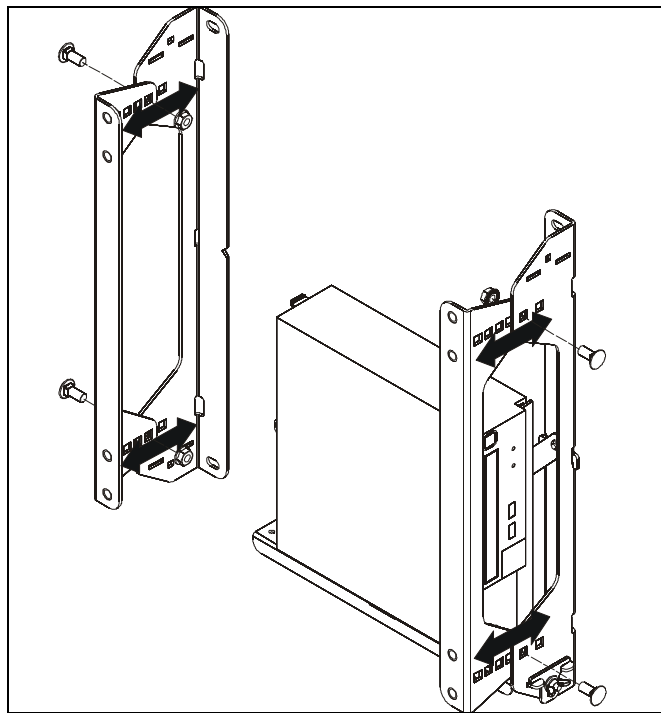

Figure 6
3. Adjust depth of brackets depending on depth of CPU to install. Remove four screws and nuts holding adjustment screws in place and replace after desired depth is achieved. (See Figure 6)